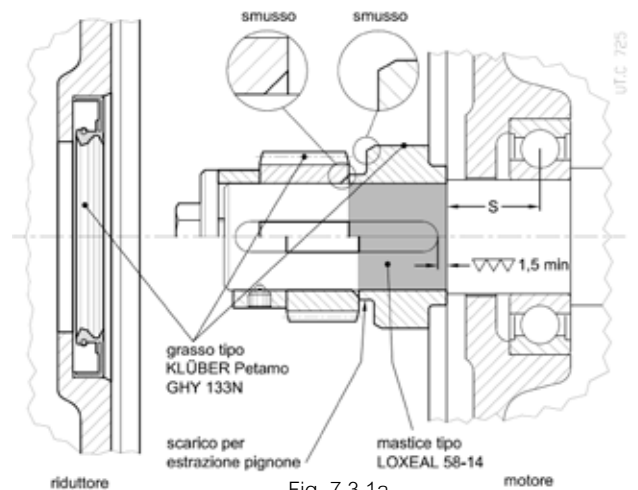

Fig. 7.3.1a
- d) the **axial fastening system** where foreseen (head self-locking screw with base, spacer, or hub clamp with one or more dowels, fig. 7.3.1A); for the cases foreseen **without axial fastening** (fig. 7.3.1b), seal with **locking adhesive type LOXEAL 58-14** also the motor shaft section below the **pinion**;